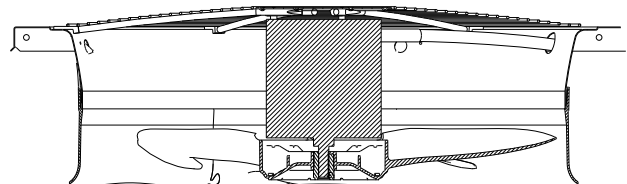

Fig. 26 — Condenser Fan Adjustment
2. Remove condenser-fan assembly (grille, motor, and fan). (See Fig. 26.)